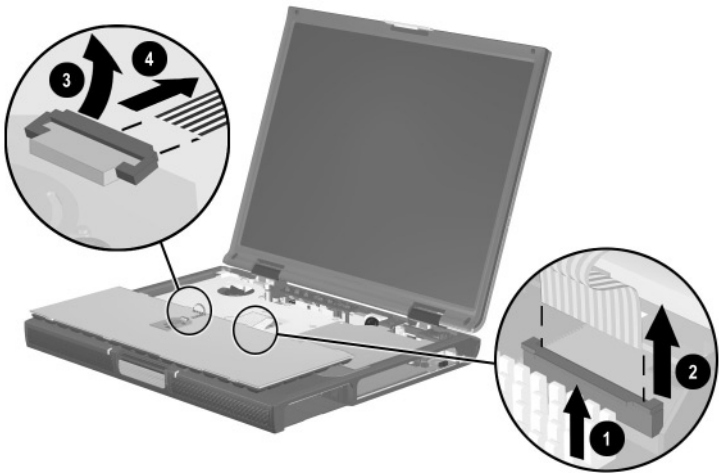

Figure 5-19. Disconnecting the Keyboard-to-TouchPad Cable
4. Release the ZIF connector ❶ to which the keyboard cable is connected and disconnect the keyboard cable ❷ from the system board (Figure 5-19).